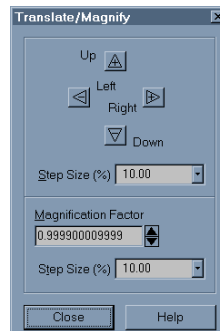

Figure 2-6. The Translate/Magnify dialog.
2.4.1.3. Data Translating and Scaling. Use the Translate/Magnify feature to translate the view of your data. Translating moves the image of your data in respect to the current frame. You can translate plots in any direction within a frame. The Translate/Magnify feature is available as both a sidebar tool and as a dialog accessed from the View menu, shown in Figure 2-6.